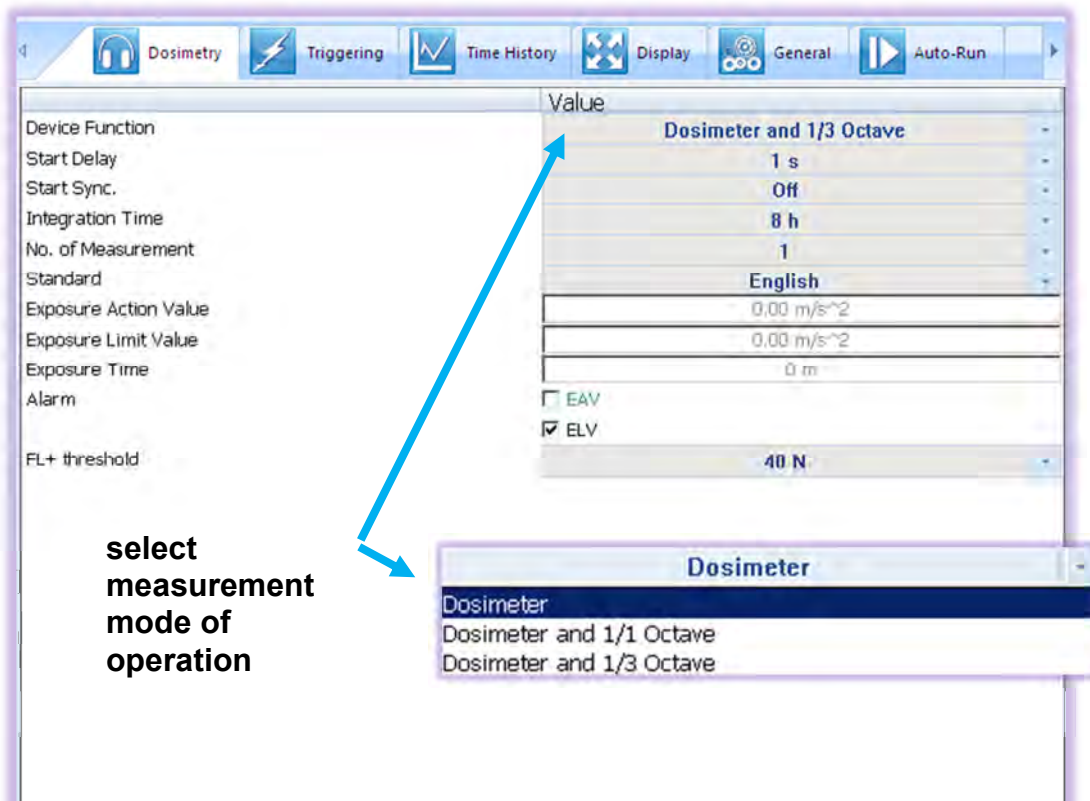

Figure 5-7 Dosimetry configuration settings tab
**Notice:** Summary results are saved on **"Integration Period"** basis (not on **"Logger Step"** time). See Figure 5-7 how to set **"Integration Period"** parameter.